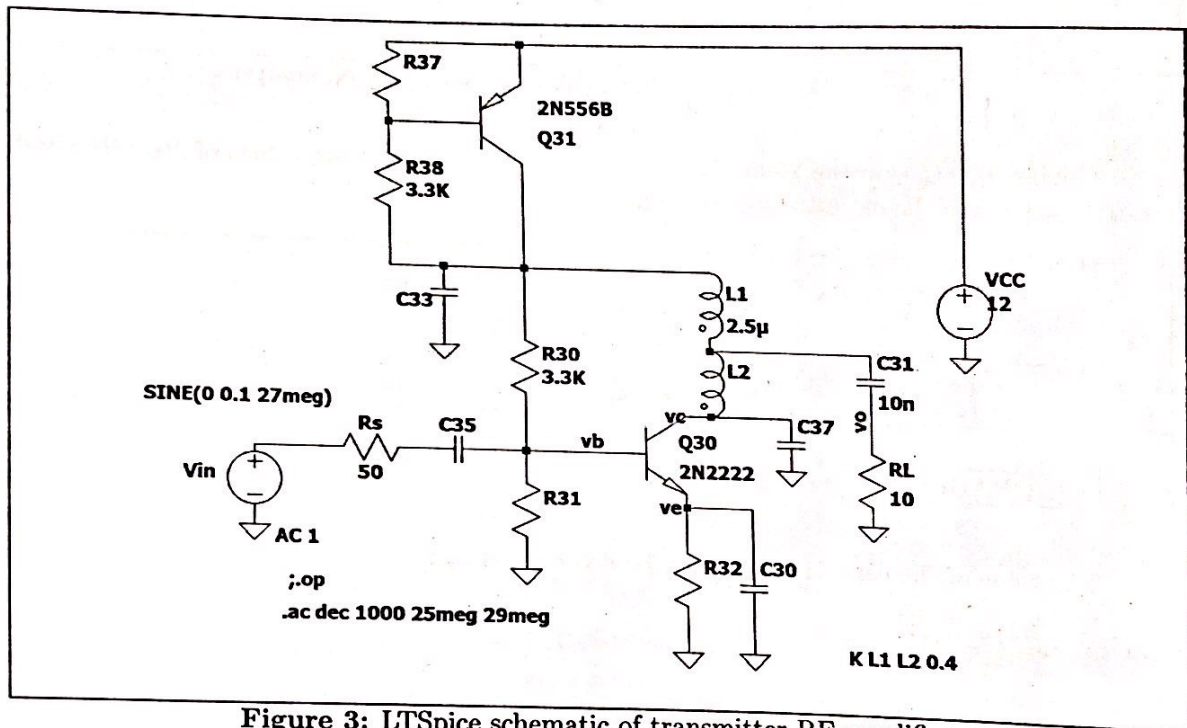

Figure 3: LTSpice schematic of transmitter RF amplifier.
4. Coupled inductors L_1 and L_2 along with C_{37} form an impedance transformation network that transforms R_L to a resistance R_t close to the optimal resistance, R_{opt} . Unfortunately, simple analytical expressions to find the component values do not exist. Instead, one can use LTSpice to determine the values. LTSpice already has the model for the transistor, 2N2222. Enter a schematic as shown in Fig. 3 using the calculated values of resistors and capacitors. Note that L_1 and L_2 are coupled inductors with "K L1 L2 0.4" statement (as SPICE directive) specifying the coupling coefficient of $k=0.4$ between them. Set L_1 value as $2.5\mu H$. The transformation ratio can be found using AC analysis in LTSpice.